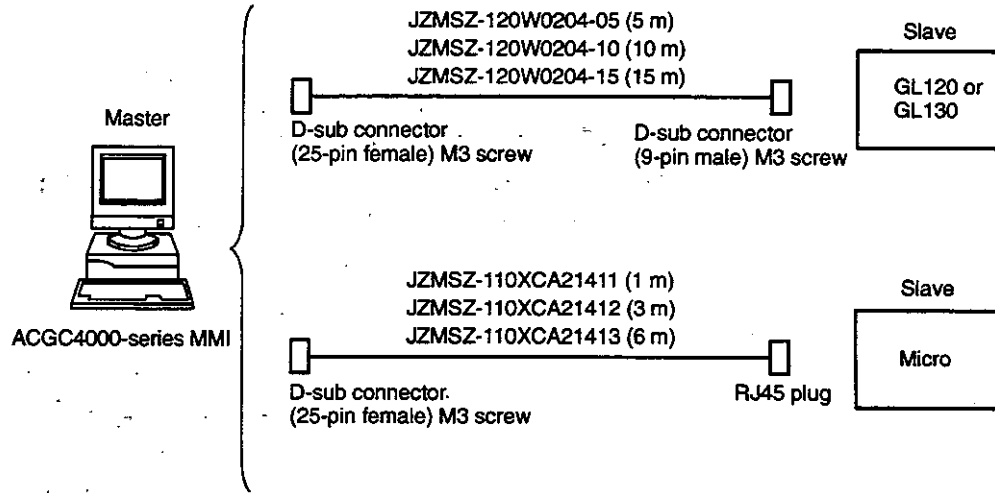

Figure 4.7 MMI Master 1:1 Configuration
1) Figure 4.7 shows MMI master configurations with a master and slave. Alternate slaves are shown, but only one slave is actually connected in this type of configuration.